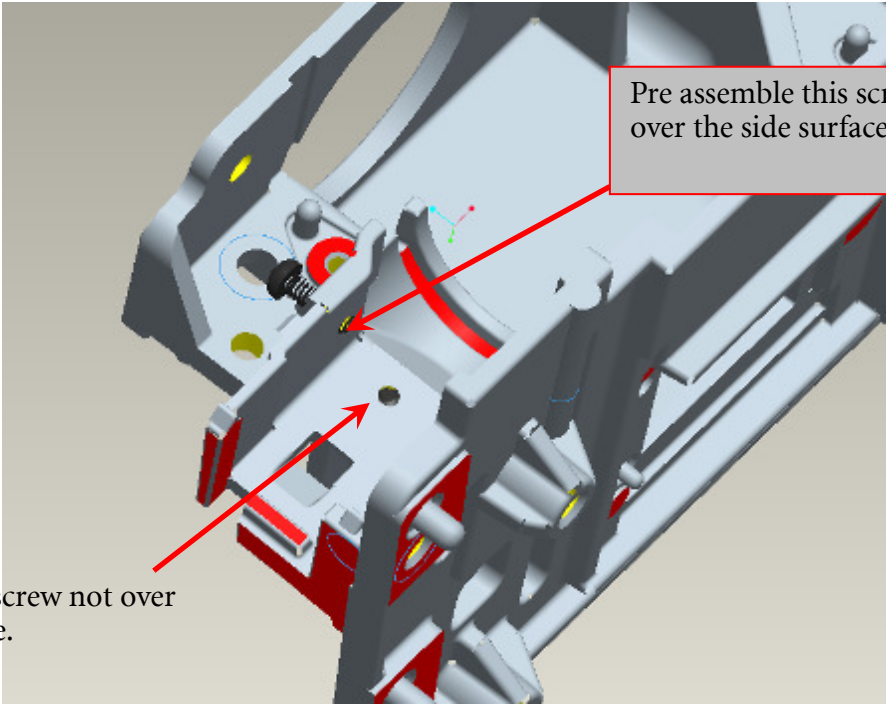

Fig. 1-2
** Adjustment criteria refer to below item 1.2 & Fig. 1-2.